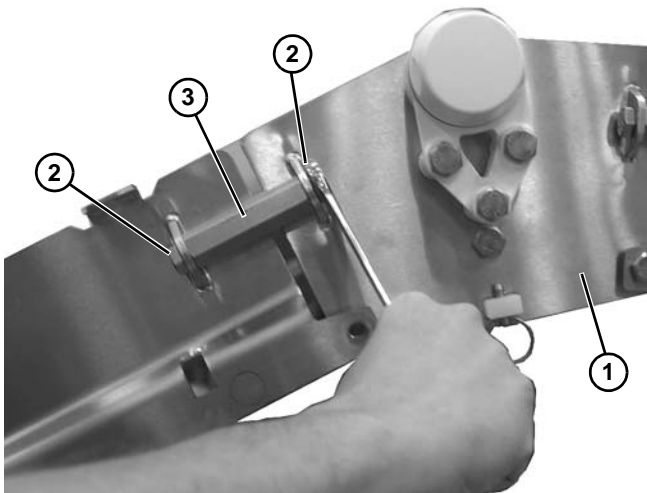

Figure 7
1. Attach upper knuckle (**Figure 7, item 1**) to frame using two screws (**Figure 7, item 2**) and a connector (**Figure 7, item 3**) on each side of the upper knuckle assembly.